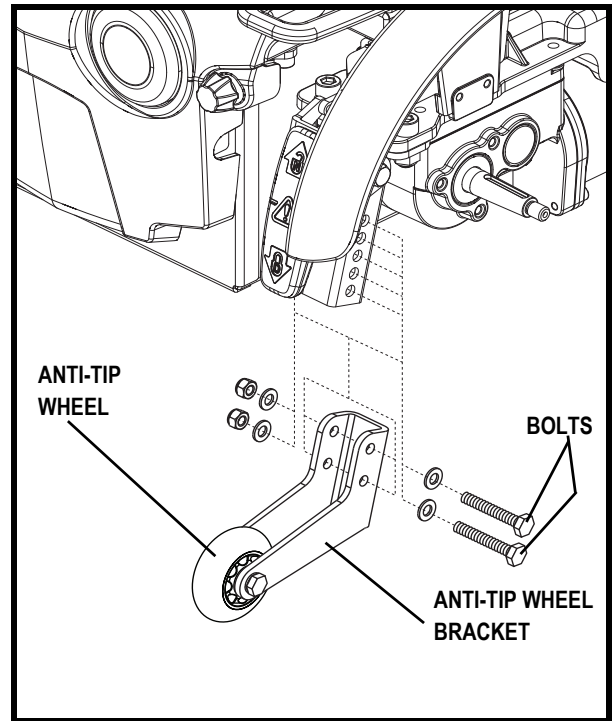

Figure 15. Anti-Tip Wheel Assembly
1. Remove both bolts from the anti-tip wheel bracket. See **figure 15**.
2. Raise or lower the anti-tip wheel in 1,25-cm (0,5-in.) increments by aligning the appropriate adjustment holes. See **figure 15**.